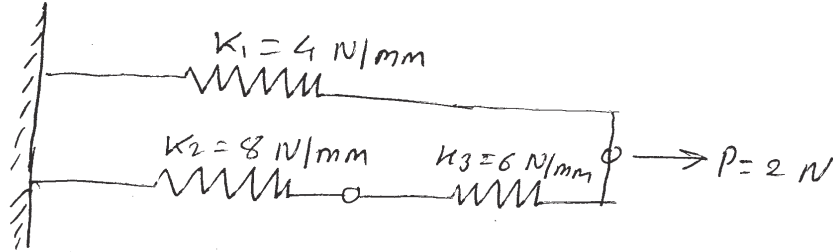

Figure 1
b) Find displacement and reaction force for cluster of springs as shown in fig.1 [6]